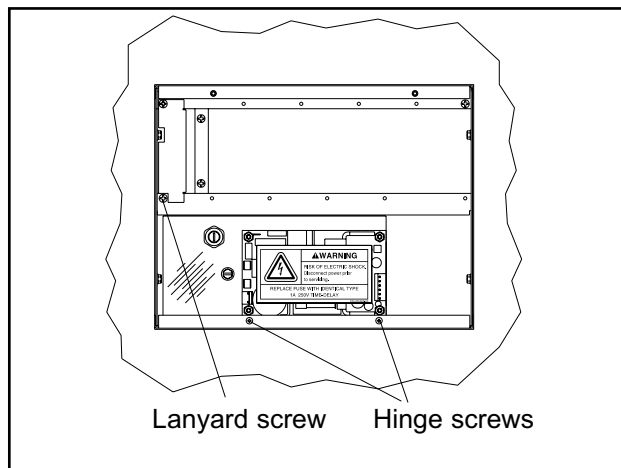

Figure 13: Front Panel Hinge and Lanyard Screws
2. Remove two front panel hinge mounting screws and lanyard mounting screw from alarm panel back box assembly (Figure 13).